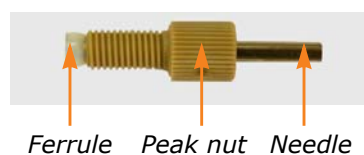

Figure 5-10. Assemble the Needle, Ferrule, and Nut
3. Assemble the new needle, ferrule, and peek nut (P/N 411915 for Ø1.65 needle and P/N 412616 for Ø3.2 needle). Ensure that the needle is aligned with the end of the ferrule; see Figure 5-10.